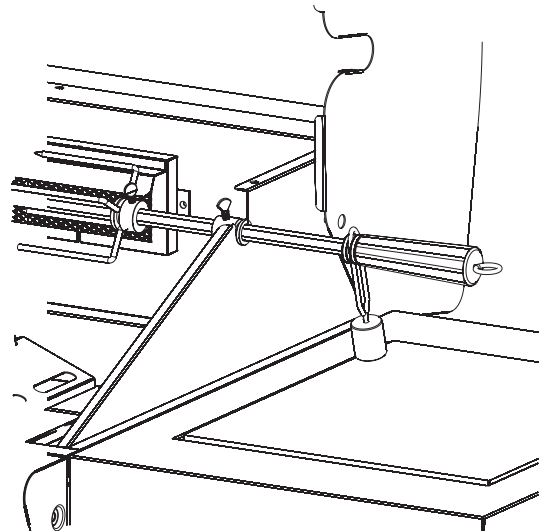

Figure 13
7. Screw jamb nut to the threaded side of spit. Slide counterbalance onto threaded end of spit. The counterbalance will remain to the outside of the grill. Screw second jamb nut into the spit to hold counterbalance in place. See Figure 13.
8. Attach handle onto spit. See Figure 13.